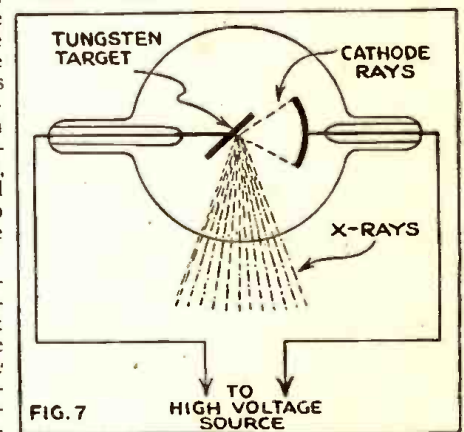

FIG. 7
An X-ray tube is shown in Fig. 7. Such tubes are really concerned with two types of rays, X-rays and cathode rays. These tubes have highly evacuated spaces and the rays impinging on the target (T) are cathode rays pure and simple. These rays apparently hammer X-rays out of the platinum target; a sort of secondary emission having properties far different than cathode rays. By employing a heated filament, as indicated in Fig. 7b, a more powerful source of X-rays may be obtained, due to the greater emission of electrons from the hot cathode.